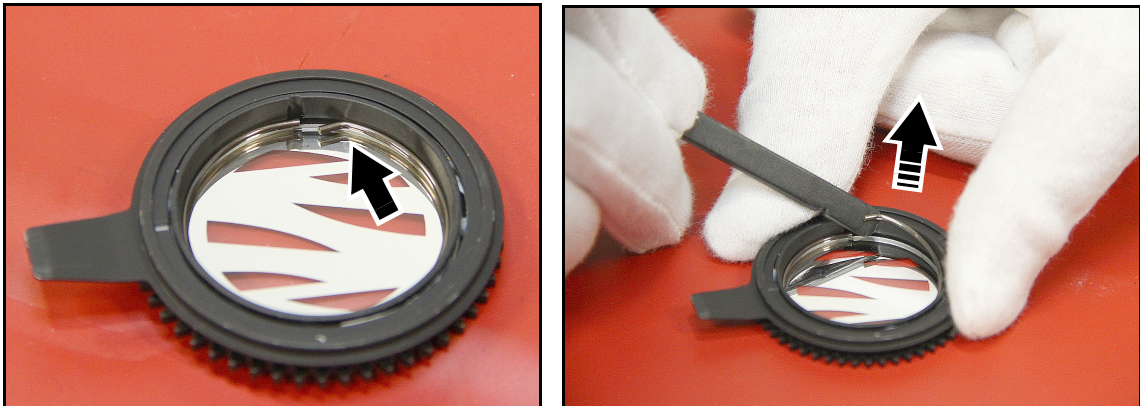

Figure 19: Removing a gobo from a goboholder
1. See Figure 19. Place the goboholder on a clean surface with the shiny side of the gobo facing upwards. Note the position of the bend (arrowed) in the end of the gobo retaining spring. Using a plastic lever to avoid scratching the gobo, lever the end of the retaining spring out of the groove in the goboholder and lift the retaining spring out of the goboholder.